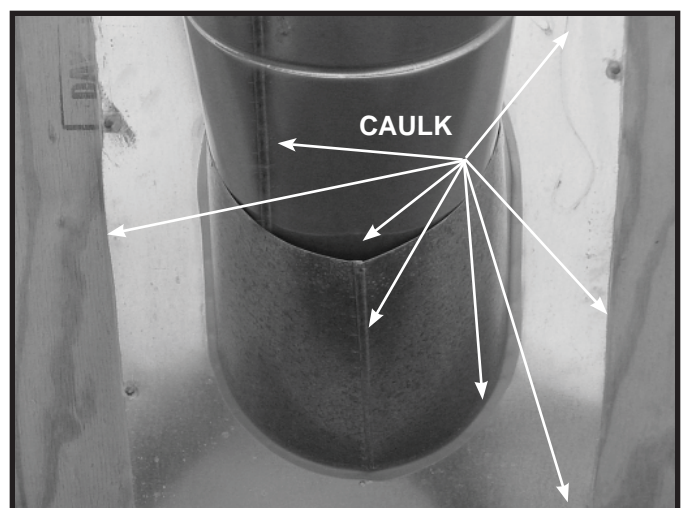

Figure 10.12 Install Metal Roof Flashing
- Slide the roof flashing over the pipe sections extending through the roof as shown in Figure 10.12.
- Caulk the perimeter of the flashing where it contacts the roof surface. See Figure 10.12.